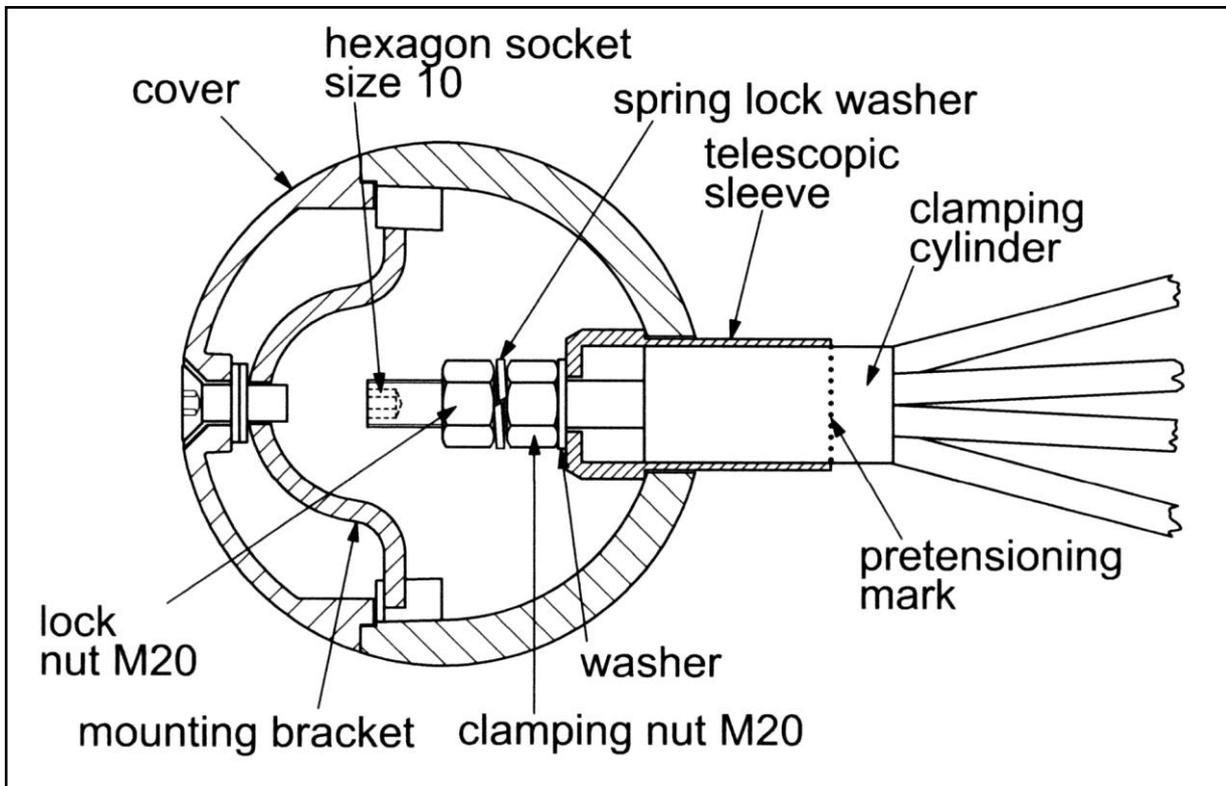

Figure 6 Secucope tensing system
The space netting is provided with appropriate markings on the straining screws for the joints which are used for tightening. First place the four straining screws with the marking **K 12** into the uppermost joints (**level 2**), at first only tightening to the mark on the tensioning cylinder (**figure 6**). The tensioning is to be carried out with a clamping nut and the special socket key SW 32.
To tighten the check nuts can on the respective thread bolt M20 an Allen key SW 10 (figure 6) to be used to hold against it.
At last the open hollow balls have to be closed. The caps have to get screwed onto the hollow balls ( K11, K12 and K13) with the binder connection (figure 6).
- The first re-tensioning of the equipment must be carried out after it has been used for between 1 and 2 weeks. Re-tensioning is done using the clamping nuts M20 which are situated in the hollow spheres of the **level 1 and 2 (K 11 and K 12)**. After removing the cover, using a size 10 Allen key, the locking nut M20 SW32 is to be loosened at first. The re-tensioning is carried out on clamping nut SW 32 **beyond the pretensioning mark**. All connection joints of **levels 1 and 2** should be re-tensioned in a uniform fashion. After being tensioned, lock the clamping nuts with the locking nuts which you are removed beforehand (**figure 6**). **Please note the right position of the spring lock washer between the two nuts**. **When you tightened the lock nut, you can hold up the M20 bolt with an Allen key size 10 (figure 6)**. Now the hollow spheres are locked with the prepared ball covers via the retaining bolt in the cover. Please fix all the covers that our logo is readable. Thank you.